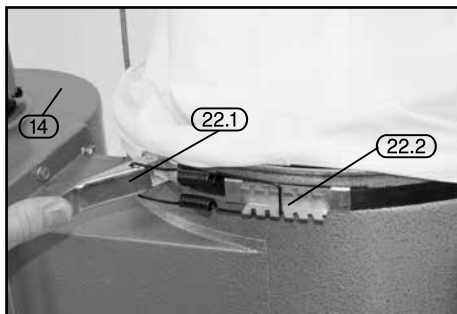

FIG. 7
8.6 UPPER & LOWER BAGS – FIG. 7